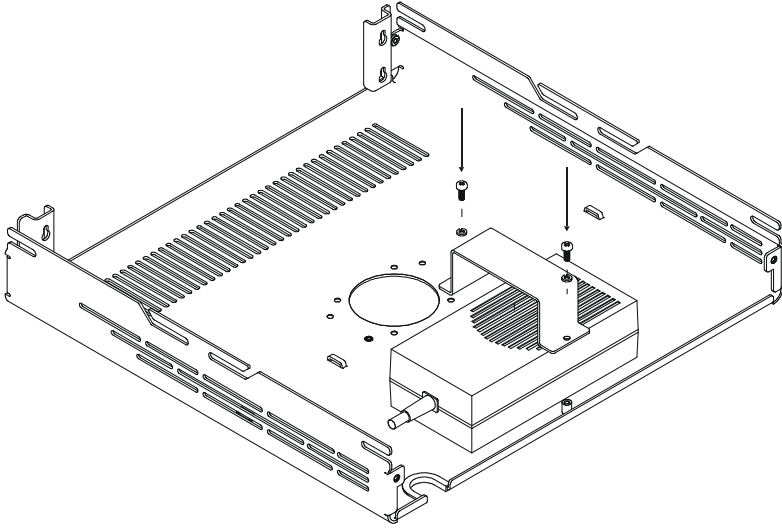

Figure 32: Attaching the Power Supply
2. Attach the switcher power supply¹, as Figure 32 illustrates: